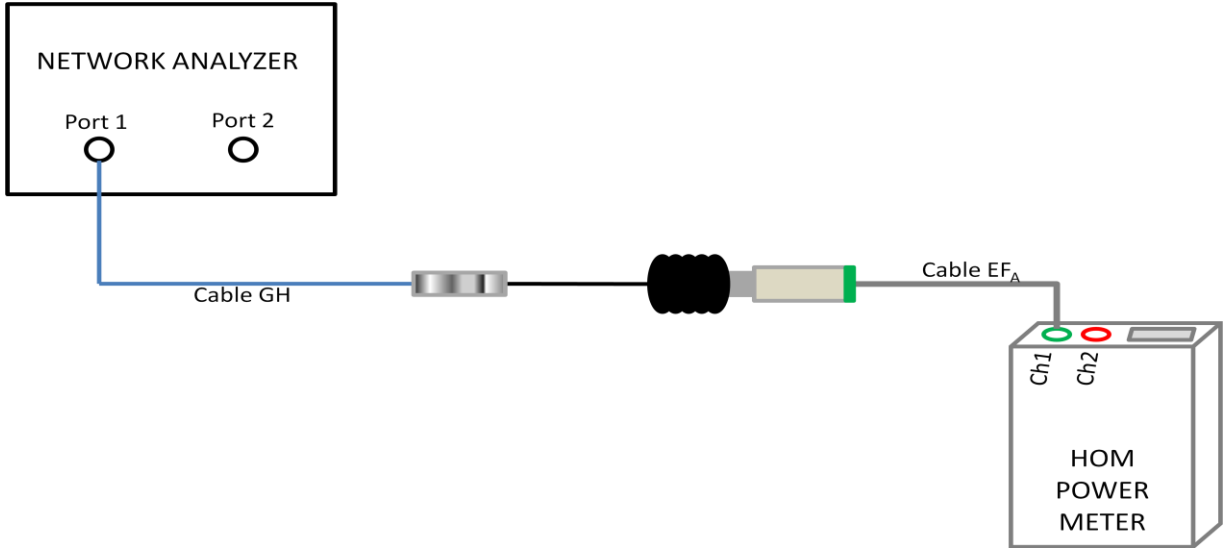

Figure 4. Network Analyzer connection to PM_{HOMA}
- At Dewar, connect cable GH from network analyzer to cable EF_A (PM_{HOMA}) as shown in Figure 4.